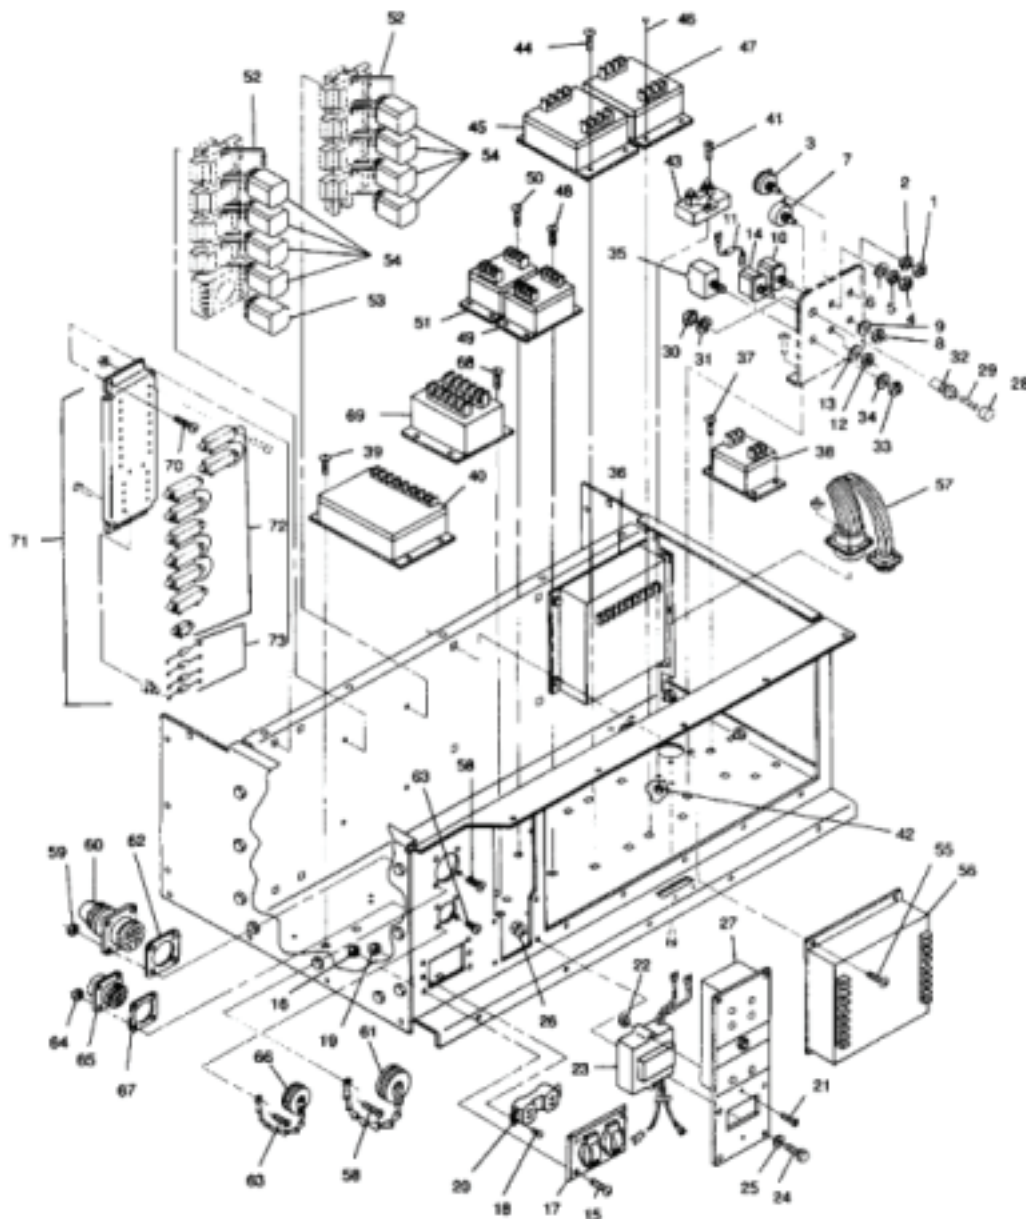

Figure 1. Control Box Components.
4. Tag and disconnect REACTIVE CURRENT ADJUST rheostat (WP 0043, Figure 1, Item 3) electrical leads by unsoldering and remove shrinkable tubing.
5. Remove nuts (1 and 2) and rheostat (3).
1. Install rheostat (WP 0043, Figure 1, Item 3) in mounting bracket.
4. Tag and disconnect LOAD SHARING ADJUST rheostat (Figure 1, Item 7) electrical leads.
5. Remove nuts (4 and 5), lockwasher (6), and rheostat (7). Discard lockwasher (6).
1. Install LOAD SHARING ADJUST rheostat (Figure 1, Item 7) in mounting bracket.
2. Install new lockwasher (6) and nuts (5 and 4).
WP 0043, Figure 1, Item 10
4. Tag and disconnect OVERSPEED RESET switch (WP 0043, Figure 1, Item 10) electrical leads.
8. Connect electrical leads to switch (10). Remove tags.
5. Remove nut (8), lockwasher (9), and switch (10). Discard lockwasher (9).
1. Install OVERSPEED RESET switch (WP 0043, Figure 1, Item 10) in mounting bracket.
2. Install new lockwasher (9) and nut (8).